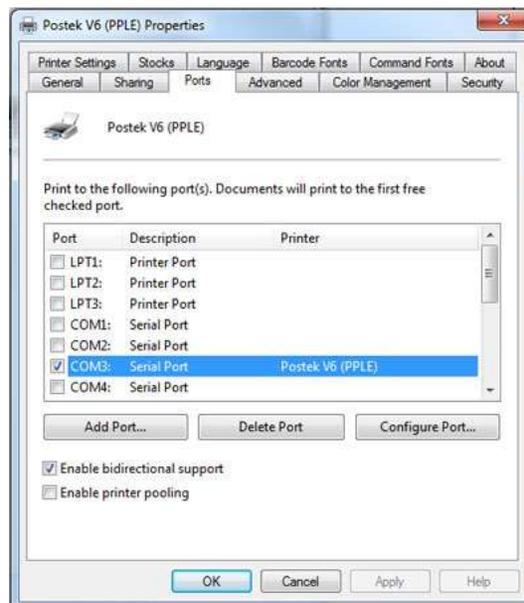

Figure 3-8
- Next, right click on the V8i driver, open the printer properties' window, and select the "Ports" tab, then check the port name from step 4 on the port list to **Apply** it. Once the port is applied, the printer name will be displayed next to it, as shown in Figure 3-8.